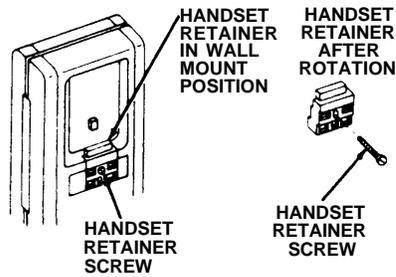

Figure 9
- Replace the handset retainer into the upper housing. If properly inserted, a portion of the handset retainer should be projecting into the handset well of the upper housing (see Figure 9).